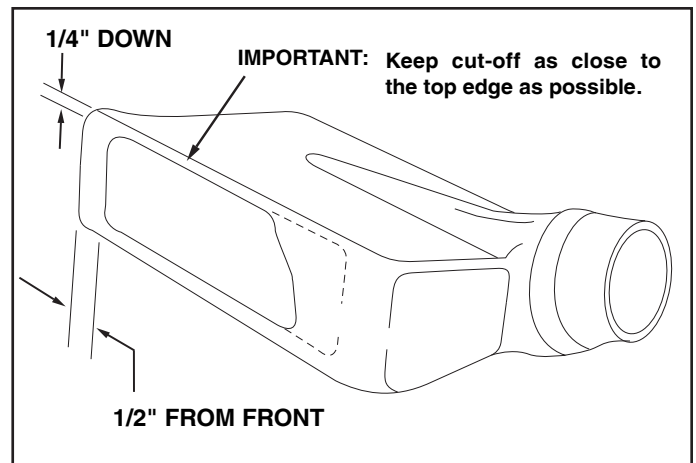

FIGURE 24
3. Tape the template to the face of the adapter, locating template approximately 1/2" from front and 1/4" down from top of adapter. Keep as close to top as possible. See figure 24. Mark outline of template on face of adapter using white crayon, nail or scribe. Drill a starting hole inside the outline, then use a saber saw or key hole saw to cut out the opening. See figure 24.